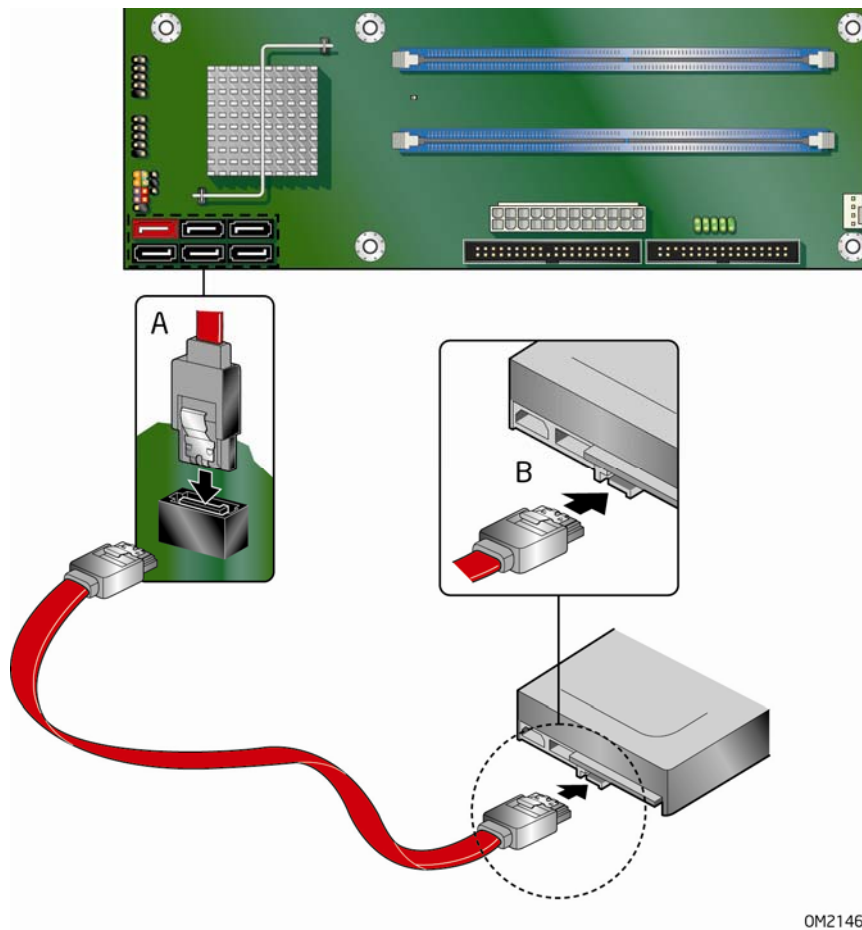

Figure 19. Connecting a Serial ATA Cable
2. Attach one end the SATA cable to one of the black SATA connectors on the board (Figure 19, A).
3. Attach the other end of the SATA cable to the SATA drive (Figure 19, B).